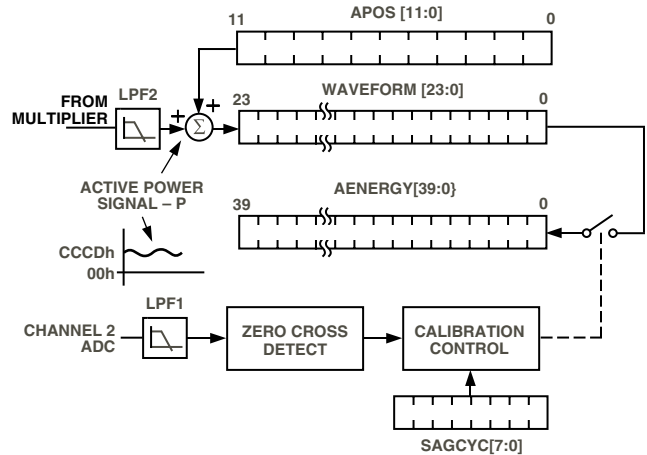

Figure 34. Energy Calculation in Calibration Mode
As mentioned in the last section, the discrete time sample period (T) for the accumulation register is $1.1 \mu\text{s}$ ($4/\text{CLKIN}$). With full-scale sinusoidal signals on the analog inputs and the Active Power Gain register set to 000h, the average word value from LPF2 is CCCDh—see Figure 34. The maximum value that can be stored in the Active Energy register before it overflows is 2^{39} or 7F, FFFF, FFFFh. Therefore the integration time under these conditions is calculated as follows:
By using the on-chip zero-crossing detection on Channel 2 the energy calibration can be greatly simplified and the time required to calibrate the meter can be significantly reduced. To use the zero-cross detection the ADE7756 is placed in calibration mode by setting Bit 7 (CMODE) in the Mode register. In Calibration Mode the ADE7756 accumulates the Active Power signal in the Active Energy register for an integral number of half cycles, as shown in Figure 34. The number of half-line cycles is specified in the SAGCYC register. The ADE7756 can accumulate Active Power for up to 255 half-cycles. Because the Active Power is integrated on an integral number of line cycles, the sinusoidal component is reduced to zero. This eliminates any ripple in the energy calculation. Energy is calculated more accurately and in a shorter time because integration period can be shortened. At the end of an energy calibration cycle the SAG flag in the Interrupt Status register is set; this will cause the SAG output to go active low. If the SAG enable bit in the Interrupt Enable register is enabled, the $\overline{\text{IRQ}}$ output will also go active low. Thus the $\overline{\text{IRQ}}$ line can be used to signal the end of a calibration also. Another calibration cycle will start as long as the CMODE bit in the Mode register is set. Note that the result of the first calibration is invalid and must be ignored. The result of all subsequent calibration cycles is correct.